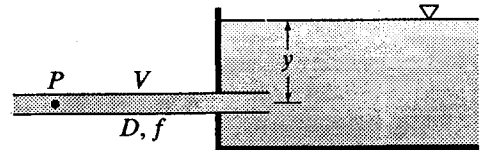

Figure X8.27.3
8.27.3 A horizontal 4-in-diameter pipe ( $f = 0.028$ ) projects into a body of water 2.5 ft below the surface (Fig. X8.27.3). Considering all losses, find the pressure at a point 15 ft from the end of the pipe if the velocity is 12 fps and the flow is (a) into the body of water; (b) out of the body of water.